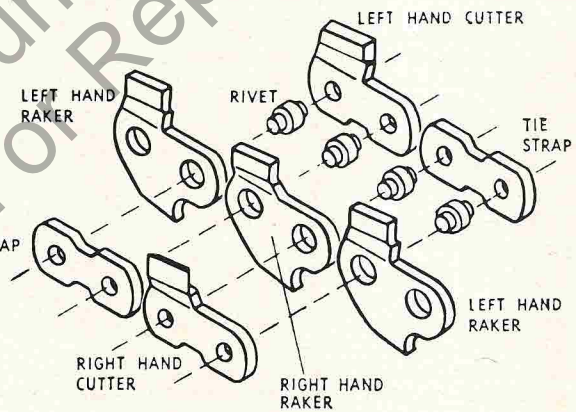
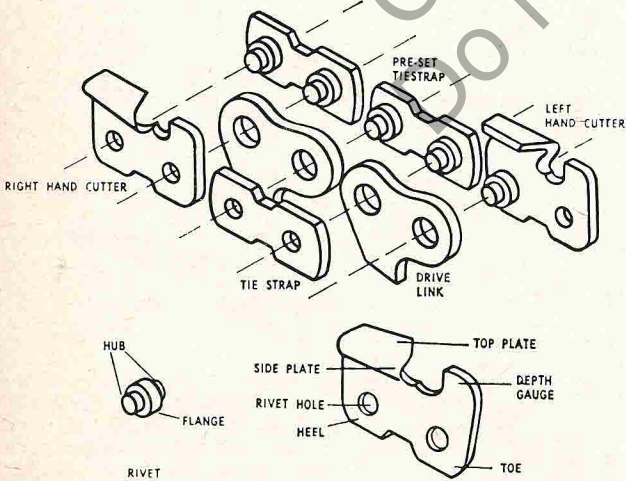

Fig. 3—Nomenclature of scratcher type chain.
Fig. 2—Nomenclature of chipper tooth and chisel tooth saw chains. Chipper tooth is shown; chisel tooth is similar except for cutter design.
**SAW CHAIN NOMENCLATURE.** To identify parts of a saw chain and saw chain link, refer to Fig. 2 for chipper and chisel tooth type chains, and to Fig. 3 for scratcher type chain. Chains may be made up as an "endless chain," or may have a master link that can be unhooked to allow removal of the chain without removal of certain parts of the saw. Endless chain is generally preferred.